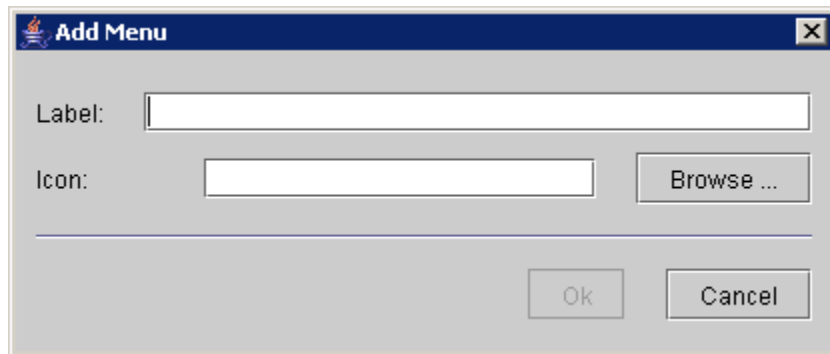

Figure 198 : Add menu
- ◆ Click on the **Add Menu** button, the following dialog box then appears (Figure 198):